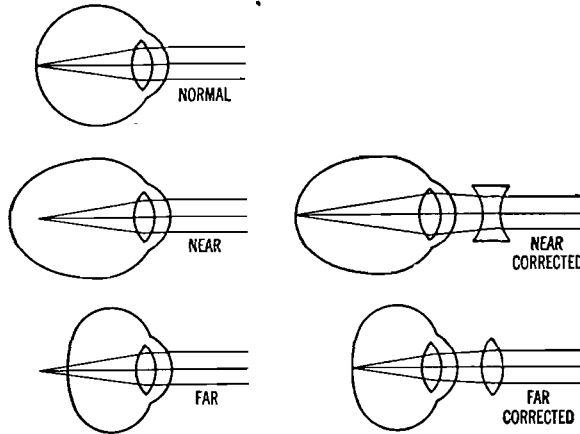

Fig. 35.14. Showing a normal eye, a nearsighted eye, and a farsighted eye, with the proper correction for each of the abnormal cases.
**213. Nearsightedness and Farsightedness.** If the eyeball is too long, the rays of light come to a focus in front of the retina and the person is said to be *nearsighted*, since he tends to hold the object very near the eye in order to bring the focus on the retina. Such an eye needs a diverging lens placed in front of it to make the rays diverge before they enter the eye so they will come to a focus on the retina. (See Fig. 35.14.) If the eyeball is too short, the rays focus back of the retina and the person is said to be *farsighted*, since he tends to hold the object at which